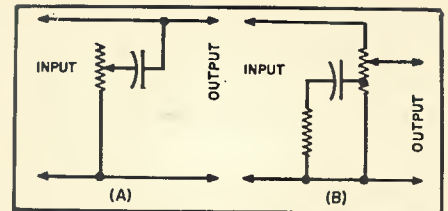

Fig. 2. (A) The shunt condenser-resistor type tone control and (B) the tapped volume control. Their effectiveness in obtaining correct compensation is limited.
Fig. 2. (A) Complete schematic diagram of the transmitter portion of the radio-control unit. (B) The unusually sensitive superregenerative-type receiver section.
A number of attempts at correcting this trouble have been made from time to time, but these solutions are not particularly successful as is evidenced by the assortment of bass, treble, and volume controls with which our equipment is customarily burdened. The shunt condenser type of tone control and the tapped volume control, both shown in Fig. 2 are, of course, steps in the right direction, but their effectiveness is necessarily limited. The complexity to which bass and treble compensation controls can grow is easily seen in modern audio circuitry.